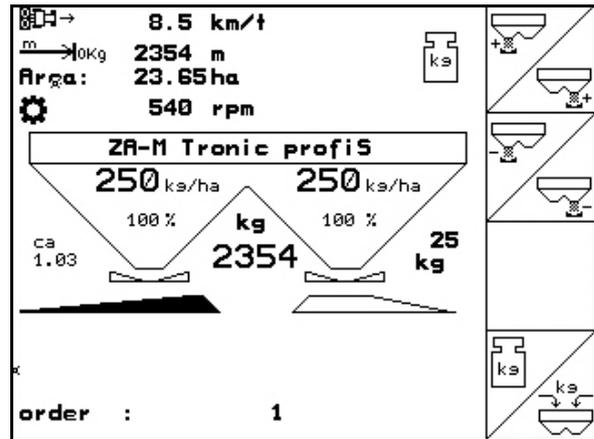

Fig. 33
- The quantity of fertiliser dispensed is shown in the work menu (Fig. 33/1).
- The work menu signals when 200 kg of fertiliser have been spread. (Fig. 33/2).